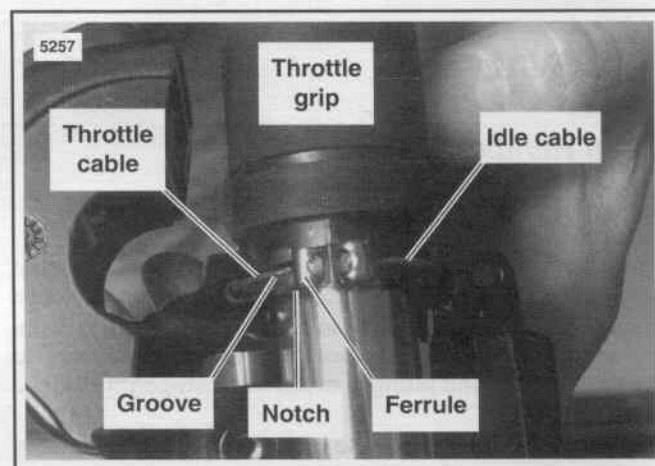

Figure 8-63. Install Throttle/Idle Control Cables on Throttle Control Grip
5. See Figure 8-63. Position the lower switch housing beneath the throttle control grip. Install the brass ferrules onto the cable so that the end fittings seat in the ferrule recess. Seat the ferrules in their respective notches on the throttle control grip. Verify that the cables are captured in the grooves molded into the grip.